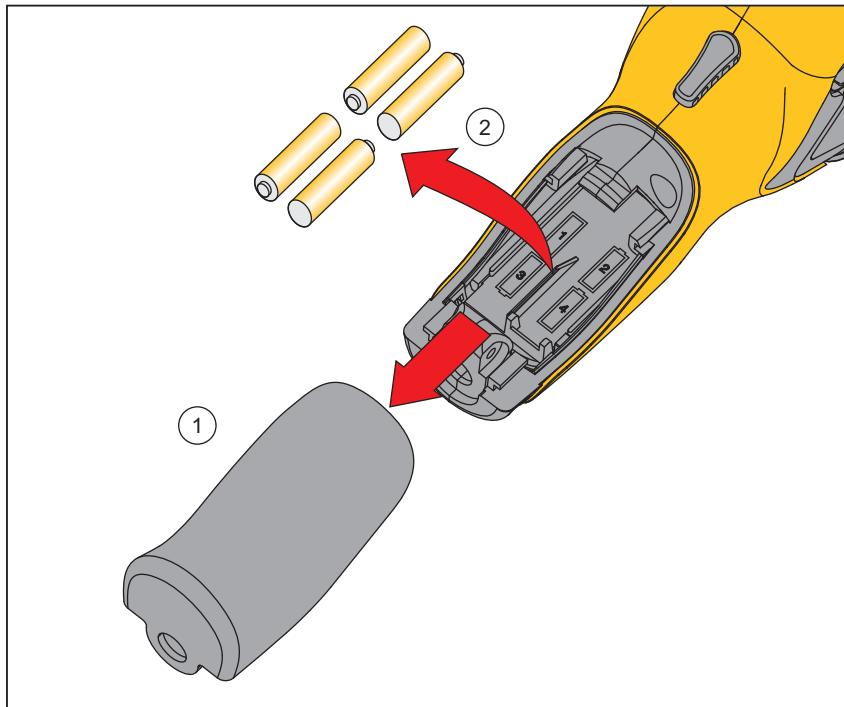

Figure 12. VT02 Battery Replacement
3. Install new batteries with the correct polarity, see Figure 12.